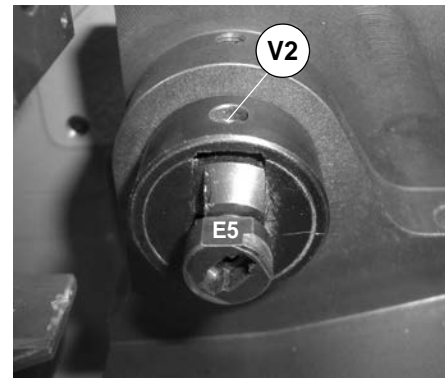

Fig. 57
- 4) Fit the adapter E5 into the K1 tailstock so that the initials E5 are facing upwards and the adapter is butting well up against the K1 tailstock grips (fig. 57).